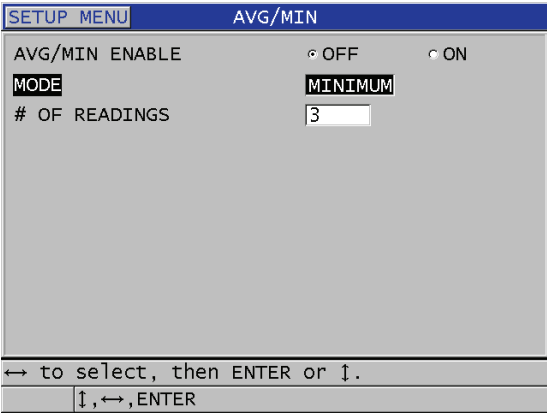

Figure 10-16 Opening the Avg/Min measure dialog box
3. In **AVG/MIN** screen (see Figure 10-16 on page 146):